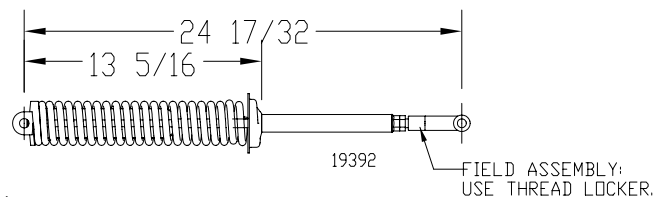

Figure 3
2. Reassemble. Slide new bolt (10) into the casting. Slide the spring (7) onto the casting and retain in place with the spring can (6), spacer tube (11) and flange nut (5). Tighten the flange nut, to the dimension shown in Figure 3.
3. Tighten the jam nut (4) against the flange nut to lock it in place. Apply LOCTITE 242 or equivalent threadlocker to the last few threads, and install yoke (12) onto the assembly. Adjust to the dimension shown in Figure 3.